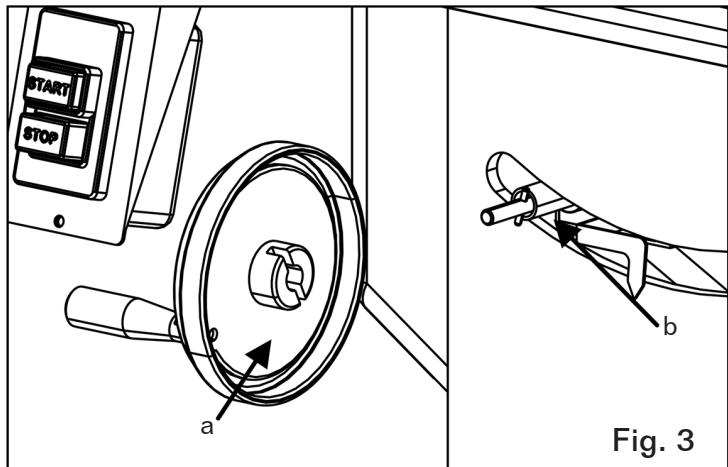

Fig. 3
1. Place the wheels in position over the raising and tilting screws being sure to engage the slots, a (Fig.3), in back of each wheel with the roll pins, b (Fig.3), as shown at right.